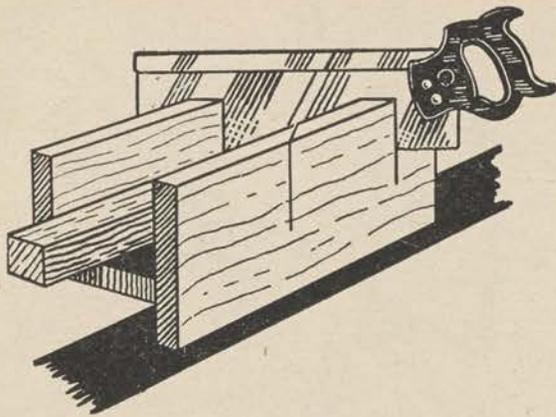

Figure 73.
*d.* A 14-point back saw is a valuable tool for fine work, especially when used with a mitre box (fig. 73). The latter can be of the improvised type shown, or it may be one of the more accurate metal ones sold commercially. It not only helps in cutting angles but also holds the saw vertical so that the edges of the cut are square.